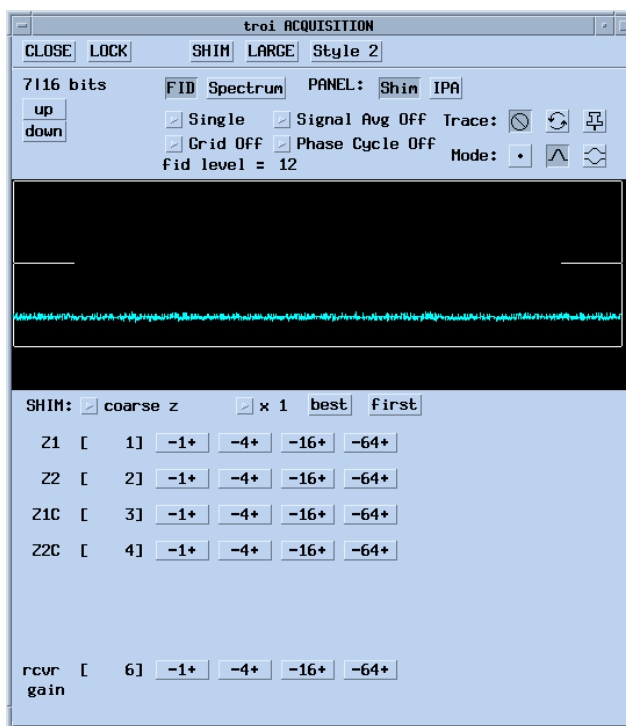
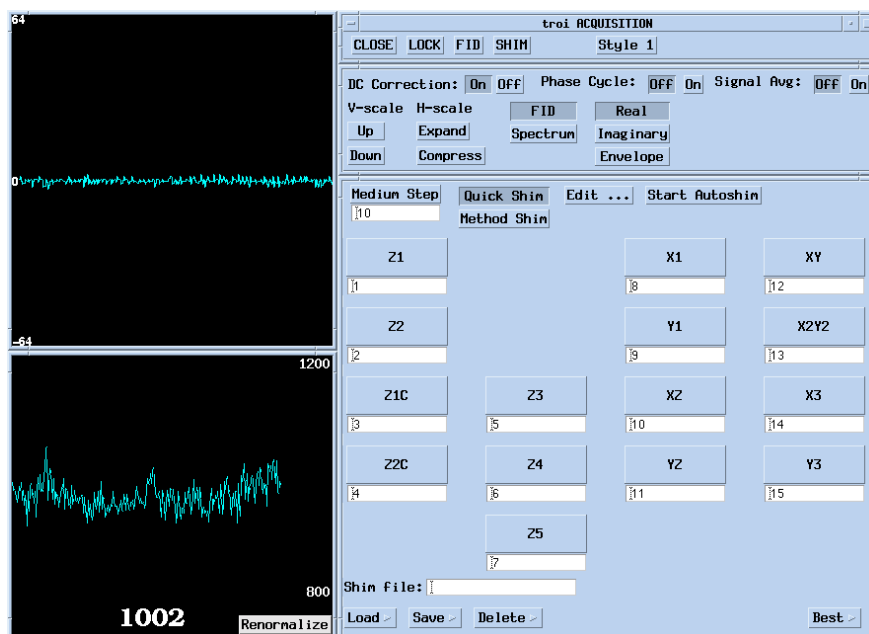

Figure 41. Opening Style 1 FID/Spectrum Display Window (`acqi` Program)
Figure 42. Style 2 FID Shimming Display in Real-time (acqi Program)
The FID/Spectrum display appears first when the FID button is clicked from any Acquisition window. VNMR provides two styles of FID shimming. The Style 1 FID shimming window is shown in Figure 41 and the Style 2 FID shimming windows are shown in Figure 42. Clicking on the Style 1 or Style 2 button near the top of the display toggles between the two styles.
Figure 41 shows a typical Style 1 FID/Spectrum display. In the opening FID/Spectrum display, the FID is observed in a graphics window at the center of the display.
Below this menu are two toggle buttons (shown as Single and Grid Off in Figure 41). (On the INOVA system, there might be two more buttons, see the following subsection “Style 1 Interface.”). The currently selected choice is displayed. The toggle button on the top left alternates between the choices Single and Summed:
- SHIM menu selects the group of shim parameters (up to six) to be manually adjusted (e.g., the axial z menu is shown in Figure 41).
Style 2 provides shimming on either the FID or the Spectrum. **Figure 42** shows FID shimming selected.
The history of the quality of the shimming, as measured by the area under the FID envelope, is displayed by the Quality Meter, shown in Figure 42.